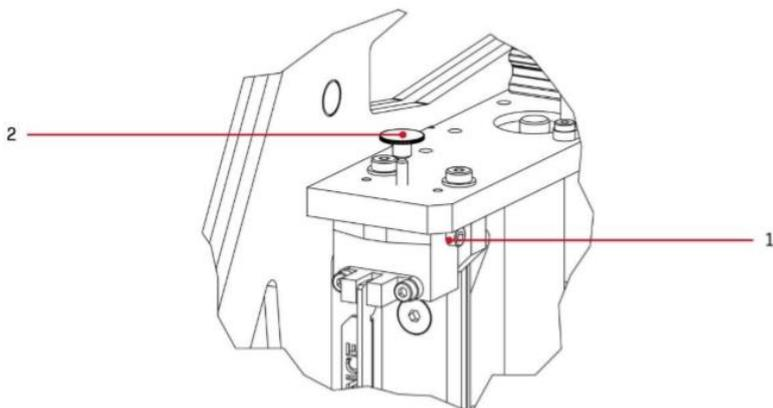

Fig. 30. Hotend height adjustment screws.
WARNING: Carefully observe the movement of all axes. When Z axis reaches its limit switch, check the distance between the end of hotend and the heatbed. It should be about 0.8 - 1 mm (no more than 1 mm), greater distance may interrupt scanning the heatbed, which is displayed as an error „Heat bed scan aborted!” If the distance between the hotend end and heatbed is more than 1 mm, adjust it manually to 0.8 - 1 mm. To do this, release the screw (1) (fig. 30.) and adjust the distance using the knurled screw (2). Turning the knurled screw clockwise will increase the distance between the table and the head. Counter-clockwise turn will decrease the distance. A single full turn increases or decreases the distance by 0.5 mm. Once you have finished knurled screw adjustment, check the position of the nozzle with the command HOME Z and tighten the screw (1) again.